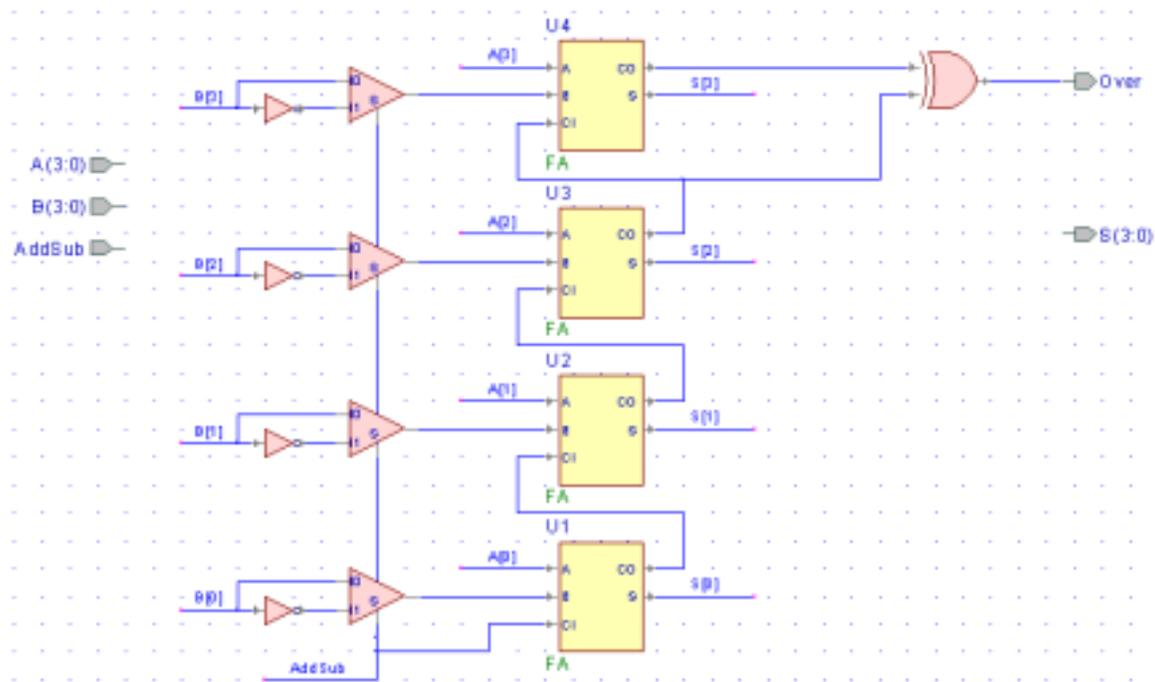

Figure 6
Figure 6 is an example of the schematic you will be designing in this portion of the tutorial. You already know how to place parts and connect them. However, this design uses buses as well as wires, therefore, you will learn how to use and connect buses. Additionally, you should gain a better understanding of hierarchy.
- Place the parts from Figure 6 into the design (use the standard class library), and make the appropriate wire connections. You will find the multiplexor under the name “MUX2”, and the inverter is under the name “INV”.
As you can see in Figure 6, you can use the naming connections described in Tutorial #1 for connecting buses as well as wires. This is the simplest method and thus the method we will use. (There are other ways to create so-called bus taps. Since we don't like them, we won't describe them. But you can (and should) take a look at the online documentation, which explains other kinds of taps, as well as the method used in this tutorial. To view the online documentation, go to Help/On-line Documentation in the menu bar.)
Your design should now look like Figure 6. Now you are ready to test your design. In the “Test Fixtures” section of this tutorial, you learned how to place a block symbol for a design into a new schematic along with a block symbol for a test fixture and how to edit block symbols. Save, run the check diagram tool, debug (if necessary), and compile your 4-bit adder/subtractor design and follow the steps described in the “Test Fixtures” section to connect the block symbol of this design to the 4-bit adder/subtractor test fixture in a new schematic. Remember to follow the naming convention. The remaining steps will guide you through running a simulation with your test fixture as well as adding multi-bit signals to a waveform.